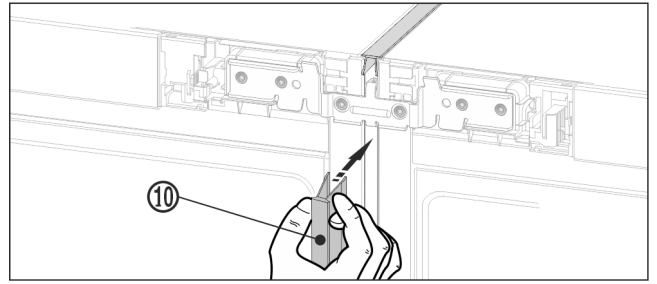

Fig. 18
- On the front, press the long cover strip Fig. 18 (10) into the vertical gap. Ensure that the strip rests on the connecting plate.